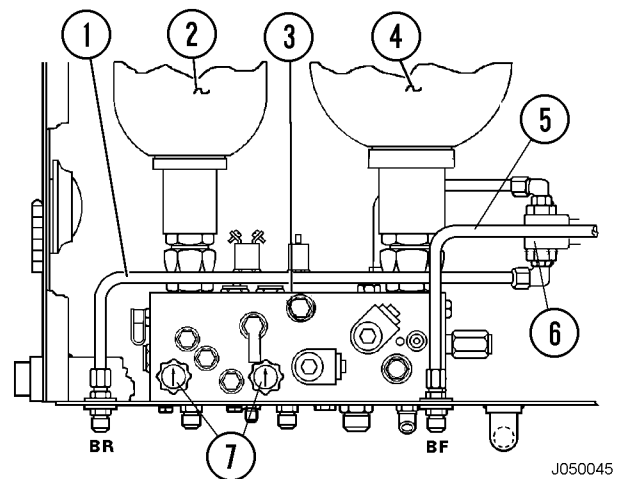

FIGURE 6-19. BRAKE MANIFOLD AND COMPONENTS
- b. Disconnect "BF" hydraulic tube (5, Figure 6-19) at both ends inside brake control cabinet. Install a #8, 0.75 x 16UNF-2B, 37° flare Cap Nut (WA2567, or equivalent) on each fitting where tube was removed. Tighten caps to standard torque to prevent leakage. Cap or plug tube to prevent contamination.